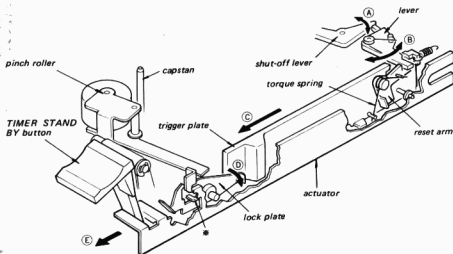

Fig. 1.
Fig. 1 shows the mechanism condition when **TIMER STAND BY** is set up. In this condition and when the power supply is applied by **TIMER**, the motor starts to rotate and the shut-off lever moves in the direction (A). Accordingly, the lever moves in the direction (B) and it pushes the trigger plate in the